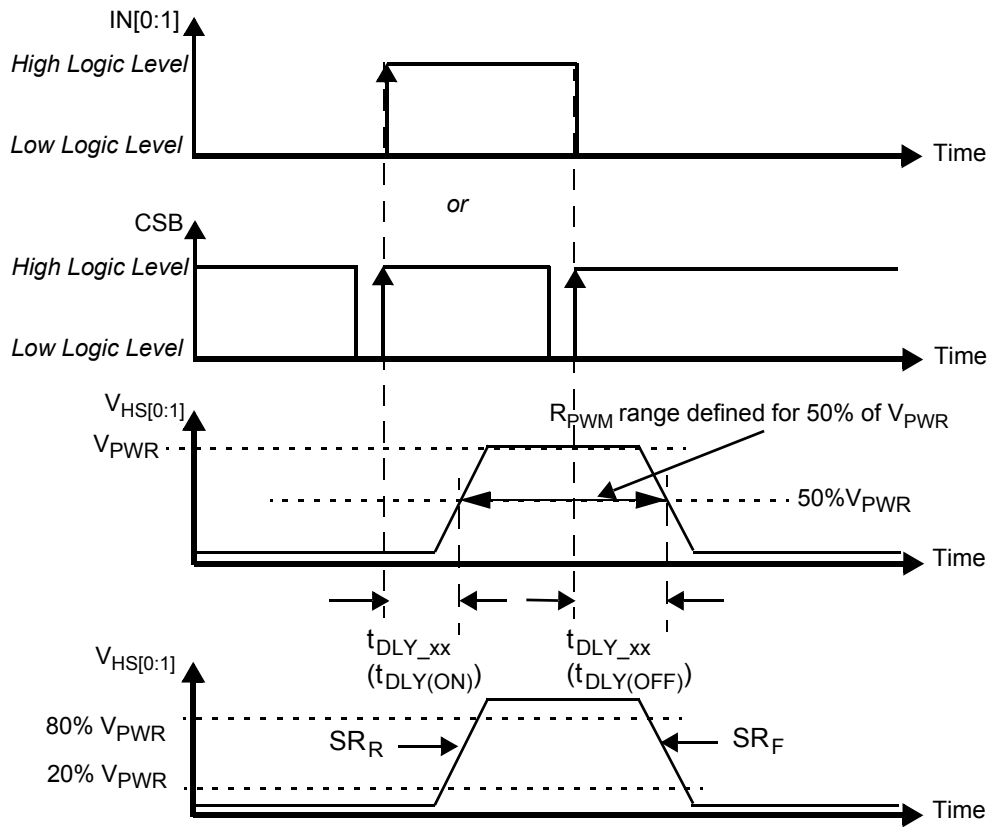

Figure 4. Output Voltage Slew Rate and Delay
28. Rising and Falling edge slew rates specified for a 20 to 80% voltage variation on a 10 Ω resistive load (see Figure 4).
30. Time required to switch off the channel after detection of overtemperature (OT), overcurrent (OC), SC or UV error (time measured between start of the negative edge on the FSB pin and the falling edge on the output voltage until $V(\text{HS}[0:1]) = 50\%$ of V_{PWR}).